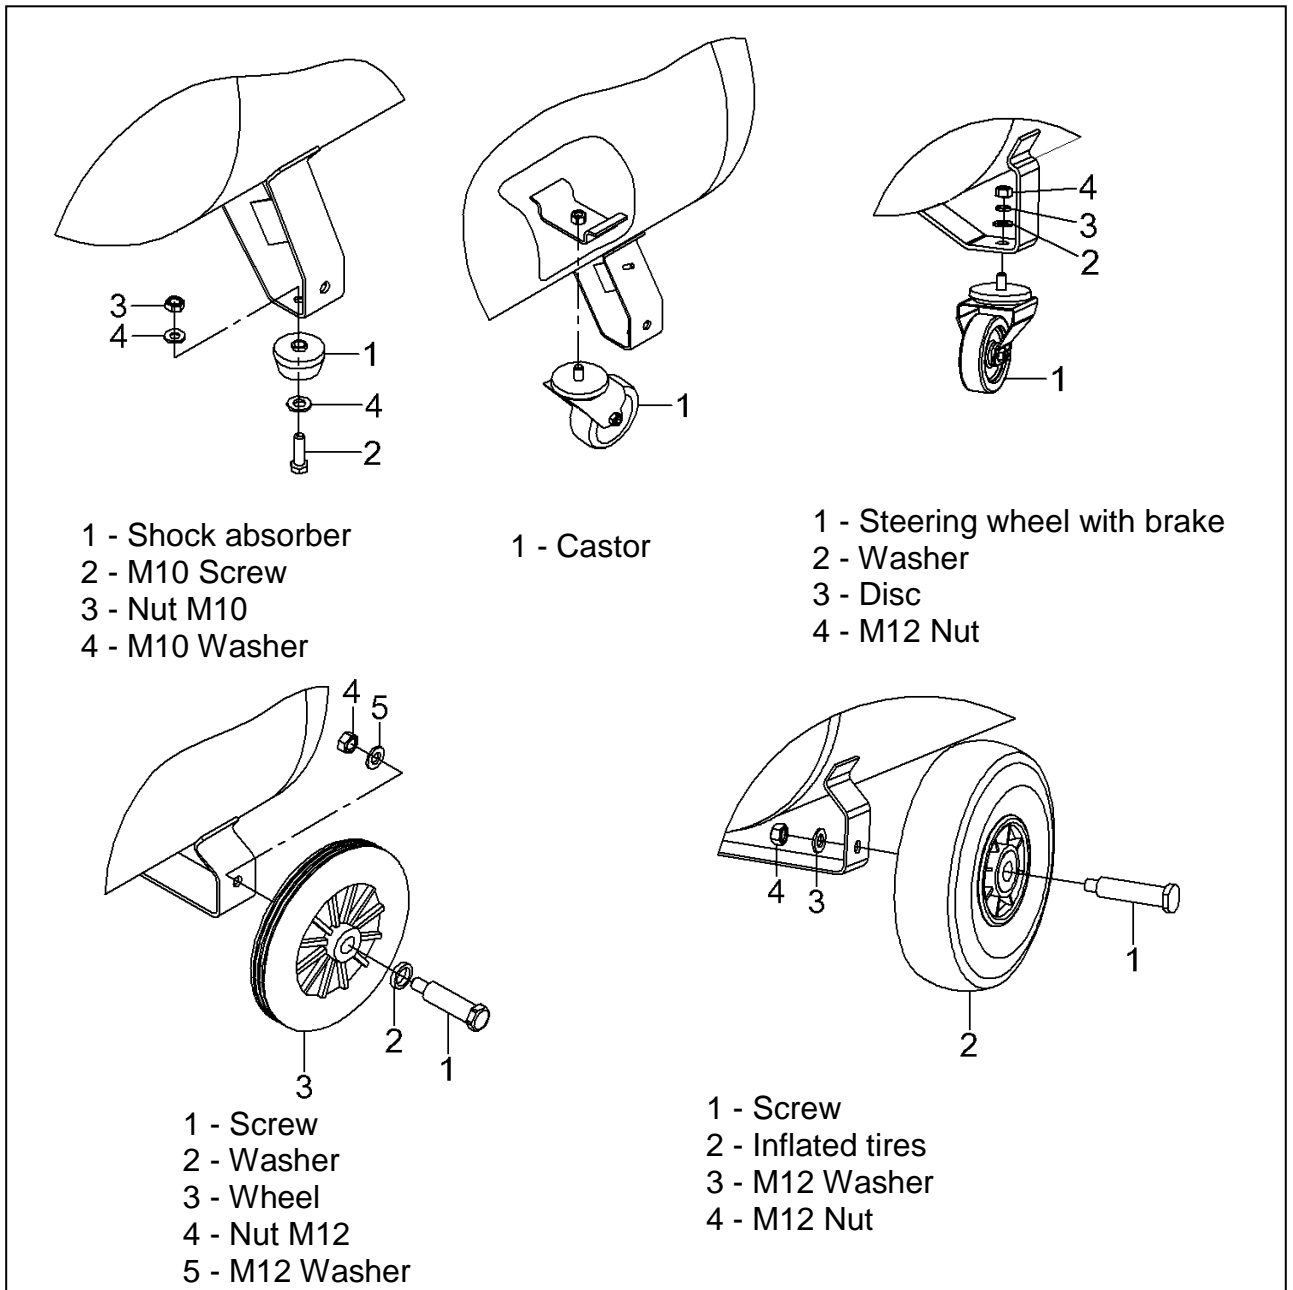

Figure 1
6.3.4 The removable wheels or rubber shock absorbers must be mounted to the pressure vessel supports, as shown in **Figure 1** .